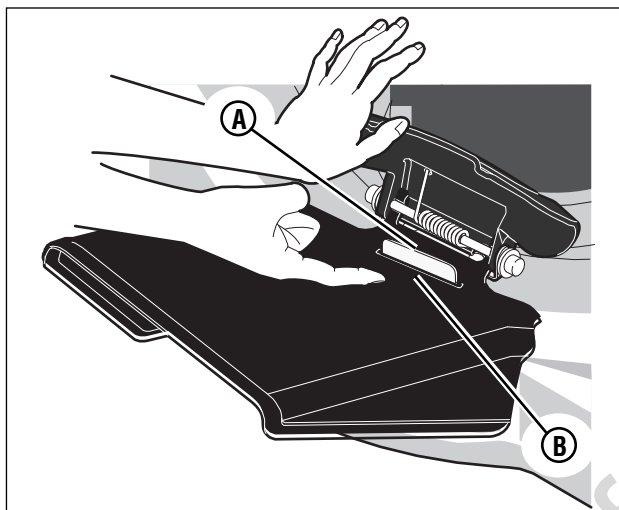

Figure 9: Deflector locking tab
- The locking tab on the deck (**A**, **Figure 9**) goes through the slot in the deflector (**B**).